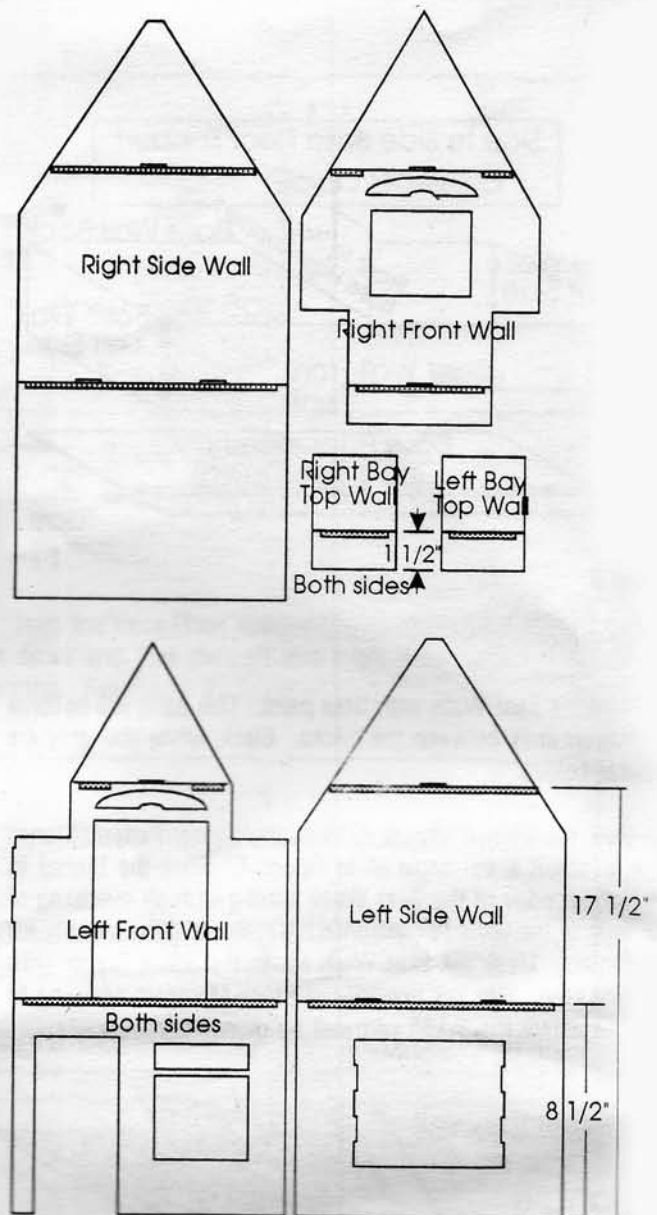

Figure 6
2. Floor Supports- Lay the walls shown in Figure 6 **good side down** and draw lines for the Floor Supports. Measuring from the bottom edges of the walls, these lines should be at 8 1/2" for the 2nd Floor and 17 1/2" For the 3rd Floor Supports. This should be at the same level as the bottoms of the slots in the walls. Cut 5-46 to fit as described in Figure 6. Glue and tape 5-46 in place. The ends of the 5-46 should be 1/4" from the edge of the wall edges. This will allow the walls to be inserted into the corner posts. Let dry. Add Balcony Floor Supports to the good sides of the Right Top Bay Wall and the Left Front Wall at the exact same locations.